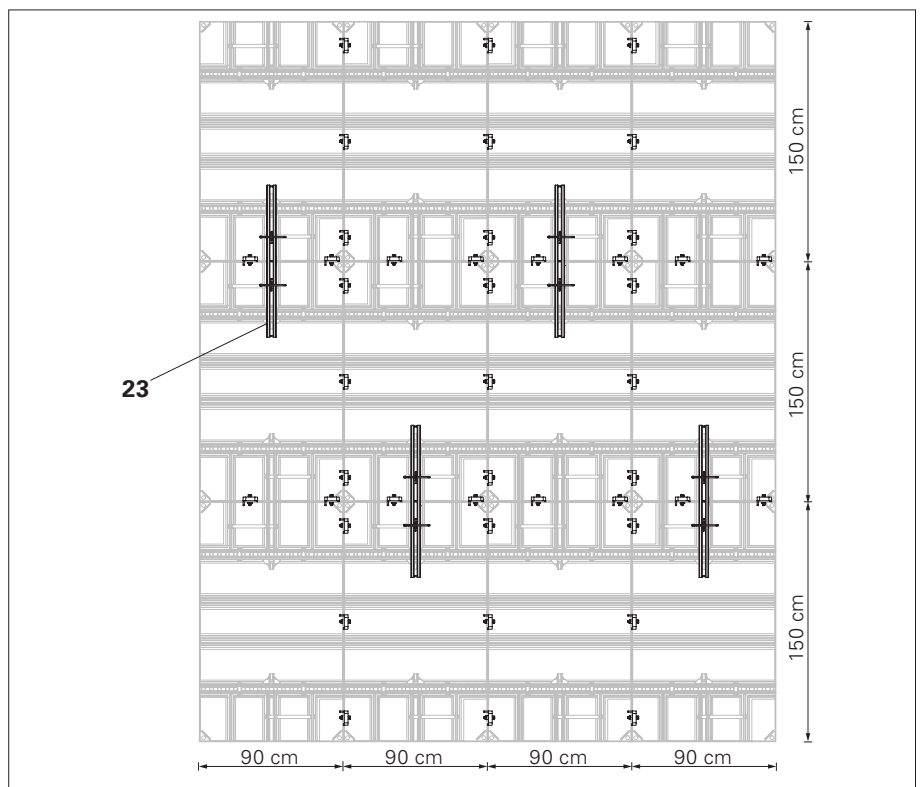

Fig. B6.04
Shown Height = 450 cm (Fig. B6.04)
When pre-assembly is not required for height extension, then a zigzag pattern can be followed as shown in Fig. B6.04 for vertical alignment using Compensation Waler HSA 95 (23).